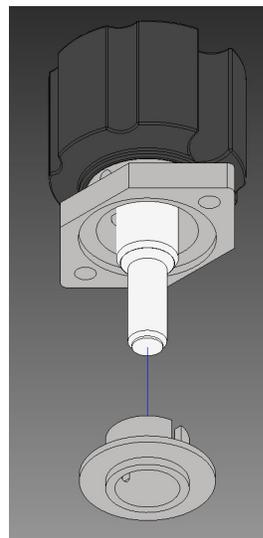

FIGURE F. 16. - BUSHING INSTALLATION
6. Install seal retaining bushing (see Figure F.16.)